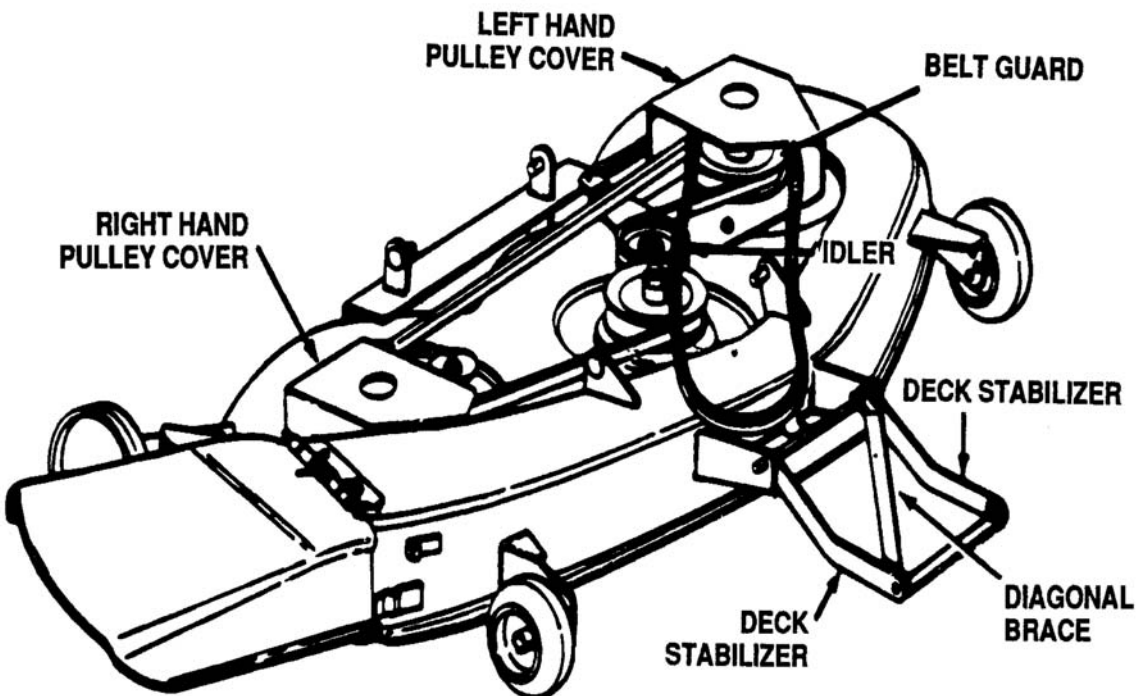

Figure 8-27. Removing Pulley Covers
2. Remove left hand pulley cover by unhooking spring and removing five self-tapping screws. See Figure 8-27.